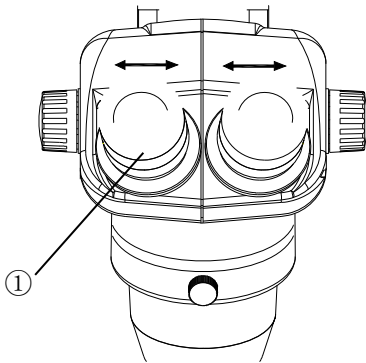

Fig. 7
3.2.1 Adjusting interpupillary distance (Fig. 7)